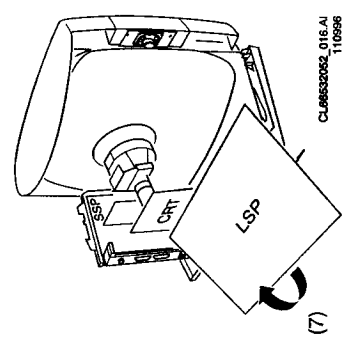

Figure 4.4
- LSP copper side with table/workbench (Figure 4.4)**
4. Turn the LSP underneath the CRT panel (keep cable S15/L15 UNDER the audio module) as indicated by the arrow (7).